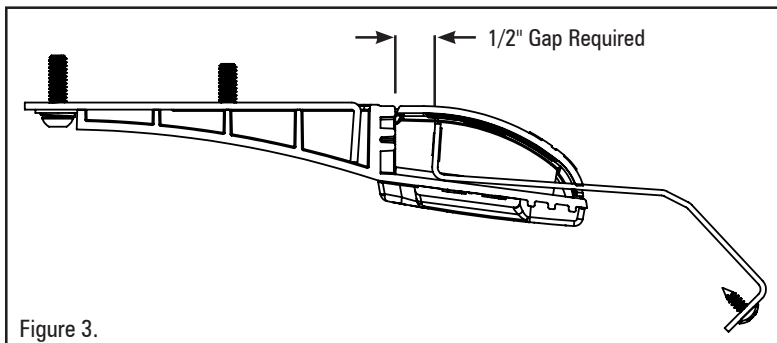

Figure 3.
4. Place lightbar centered on the roof, and hold brackets up to the lightbar. A 1/4" to 1/2" gap should be between the hook bracket and front wall of the mounting foot prior to putting any tension on the hook bracket bolt (See Figure 3). Adjust the mounting foot position to accommodate for this gap.